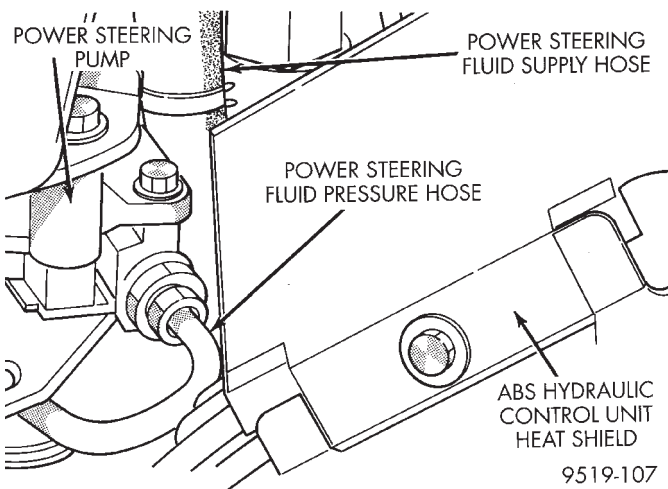
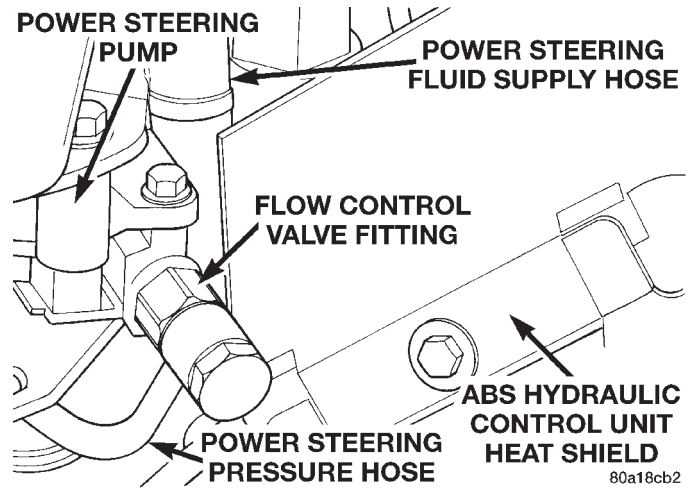

Fig. 3 Power Steering Pressure Hose Attachment To Pump W/O Variable-Assist Steering
Fig. 4 Power Steering Pressure Hose Attachment To Pump With Variable-Assist Steering
- (6) Remove power steering fluid pressure hose from pressure fitting on power steering pump (Fig. 3) or (Fig. 4). Let power steering fluid drain out of the power steering fluid supply hose, power steering pump and power steering fluid pressure hose. **After power steering fluid has drained out of pump and hose, install a cap on the power steering pressure hose and a plug in the power steering pump pressure fitting.**
- (7) Remove hose clamp, attaching power steering fluid supply hose to the power steering pump suction fitting (Fig. 3) or (Fig. 4). Then remove power steering fluid supply hose from fitting. **Install a cap on suction fitting of power steering pump.**
- (8) Remove the heat shield for the antilock brakes hydraulic control unit (Fig. 3) or (Fig. 4).
(14) Install power steering fluid supply hose on power steering pump suction fitting (Fig. 3) or (Fig. 4). Install hose clamp on hose. Be sure hose clamp is installed on hose past upset bead on suction fitting.
(15) Install heat shield on hydraulic control unit for the antilock brake system (Fig. 3) or (Fig. 4).
(16) Route the wiring harness connector for the wheel speed sensor cable through hole in inner